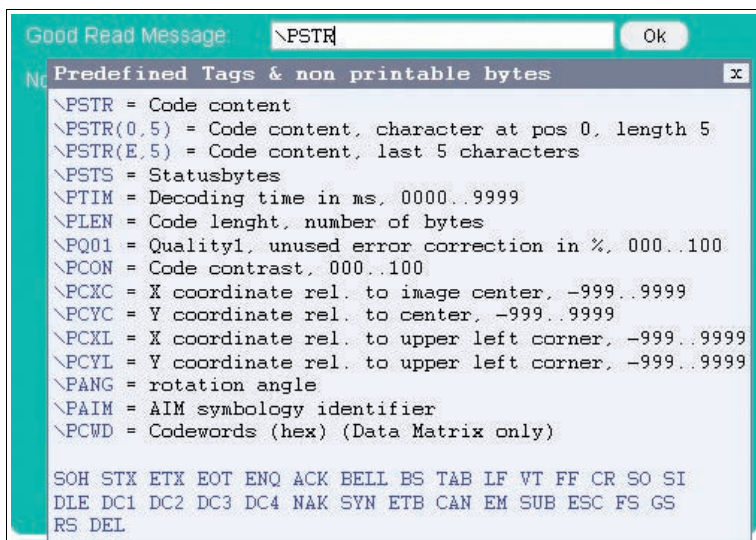

Figure 7.10 Tooltip good read message - bad read message
- **Good read output:** Specifies the character string that will be output if decoding was successful. This field uses Tooltip functionality. A table appears if the mouse pointer remains over one of the two input fields for more than 1 second → see Figure 7.10 on page 30. The table contains placeholders that can be inserted manually or by clicking the mouse. At present, the following information can be output as part of the output string: Code content, code length, status, decoding time, symbol coordinates, etc. A description of the placeholders can be found in the appendix see chapter 9.3.
- **Bad read output:** Specifies the character string that will be output if decoding was unsuccessful. A timeout error will also result in the output of this string. A table appears if the mouse pointer remains over one of the two input fields for more than 1 second → see Figure 7.10 on page 30. The table contains placeholders that can be inserted manually or by clicking the mouse. At present, the following information can be output as part of the output string: Status, decoding time. A description of the placeholders can be found in the appendix see chapter 9.3.